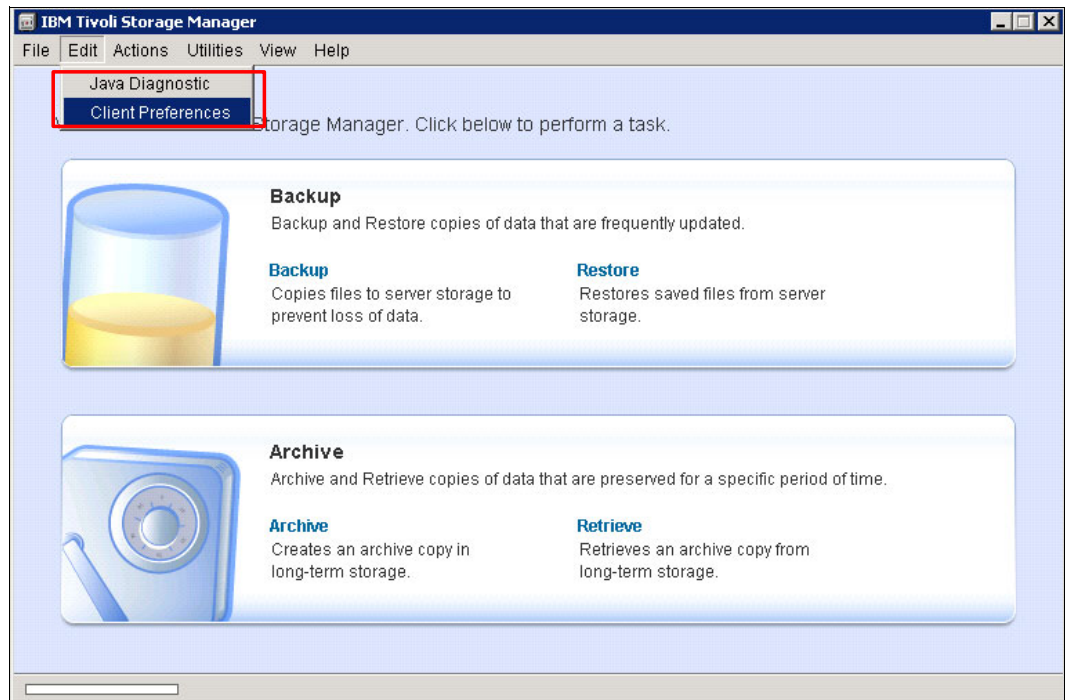

Figure 20-20 Tivoli Storage Manager GUI with Client Preferences selected
1. From the Tivoli Storage Manager GUI drop-down menus, click **Edit** → **Client Preferences** (Figure 20-20). The Client Preferences window opens.